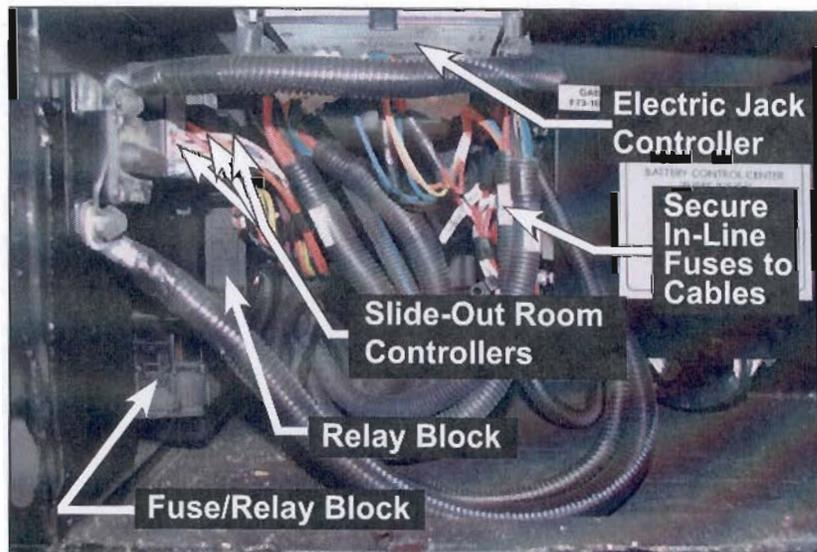

Figure 1
11. Locate an area of the compartment wall that is of sufficient size to re-locate the three slide-out room controllers. Make sure the wiring harnesses will reach to the new location. If sufficient space or wiring harness length is unavailable, it may be necessary to slightly adjust the location of the Fuse/Relay Block within the compartment in order to provide enough area for the slide-out controllers to be mounted. See Figure 1.
- A. If the relay block is secured above the compartment floor, it does not need to be relocated; skip to Step 14. See Figure 1.
- A. If the in-line fuses are secured above the compartment floor, they do not need to be relocated; skip to Step 16. See Figure 1.
- A. Use wire ties to secure the in-line fuses to the battery cables connected to the Battery Control Center, making certain that the fuses cannot make contact with the compartment floor. See Figure 1.